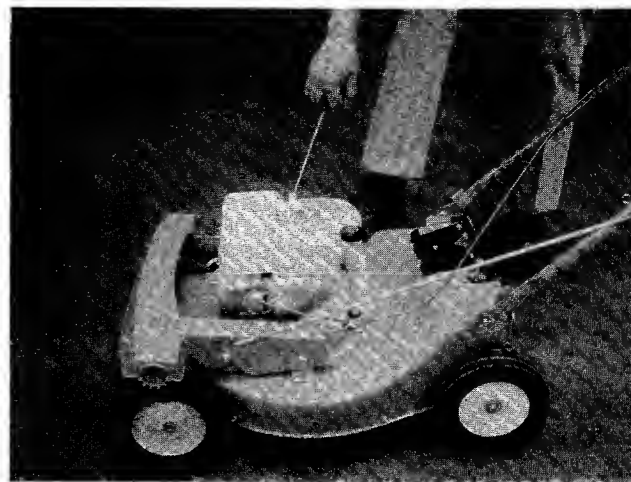

FIGURE 18.
3. Place foot on right side of deck and hold handle to prevent tipping the unit. Grasp starter handle as shown in figure 18 and pull out rapidly. Return it slowly to the engine. Repeat if necessary.